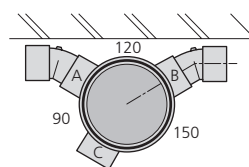

Fig.29b Flat wall layout
- Use bosses **A** and **B** for flat situations (two waste pipes approaching at 180°) (Fig.29b)